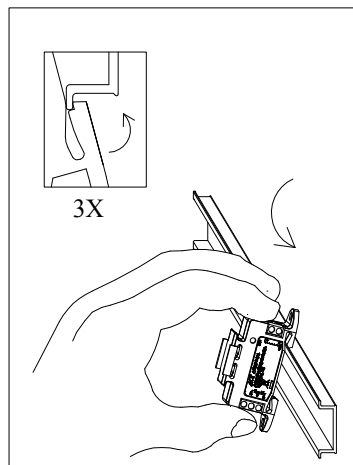
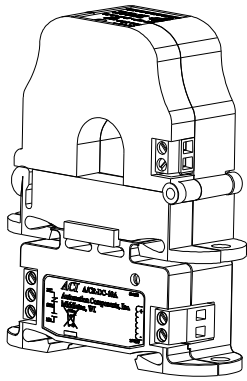
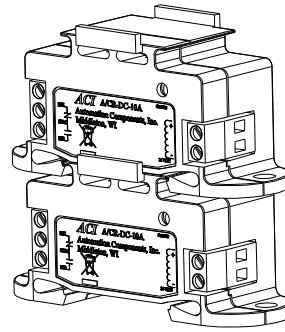

Figure 1: Relay Placed on Rail
Figure 3:
Figure 4:
The Command Relays may be mounted in any position using the (2) #8 x 3/4" Tek screws and the mounting holes in the base or snapped directly on to the 35mm DIN rail (**See Figures 1 & 2**). The ACI current switches and sensors may be snapped directly on to the top of the command relays (**See Figure 3**) or multiple command relays may be snapped directly on to the top of each other as shown in **Figure 4**. Leave a minimum distance of 1" (3 cm) between the command relays and any other magnetic devices such as contactors and transformers.